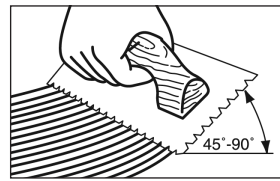

Figure 9
- Hold trowel at a minimum 45° angle (Figure 9) firmly against the subfloor to obtain a 50-60 ft.² (4-5.5 m²) per gallon spread rate (20-30 ft.² per gallon for Bruce® Summit Select or Bruce® ProConnect Plus spread with listed trowels). The trowel will leave ridges of adhesive and very little adhesive between the ridges. This method will allow you to still see the chalk lines between the ridges and provide the recommended spread rate.